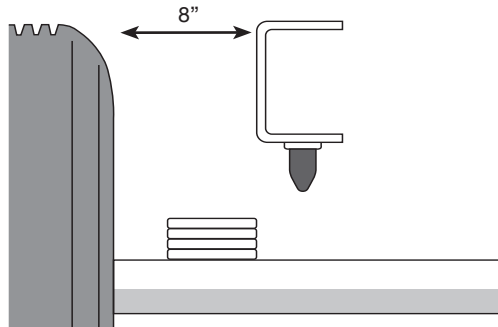

fig. 2
1. There must be 8" clearance between the frame and the rear tire for this kit to fit (fig. 2). Confirm clearance before proceeding.
2. Support the vehicle with safety stands, remove the wheels and raise or lower to obtain normal ride height (figs. 2 & 3).